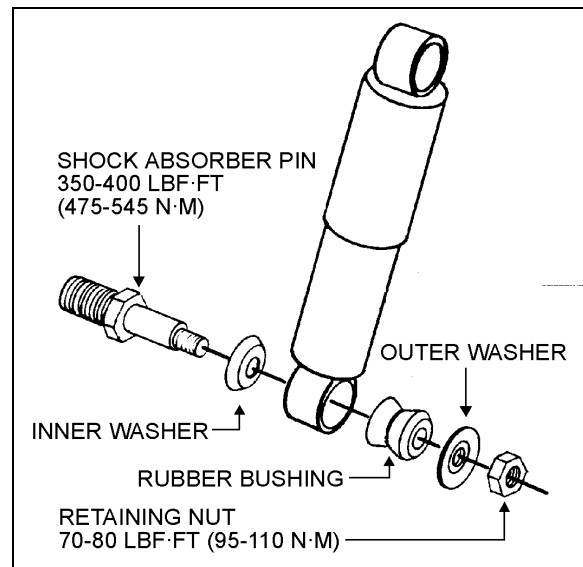

FIGURE 4: SHOCK ABSORBER
- Remove nuts and washers from shock absorbers on upper and lower mounting pins, taking care to identify the inner and outer washers to ease reinstallation. Refer to figure 4 for details.